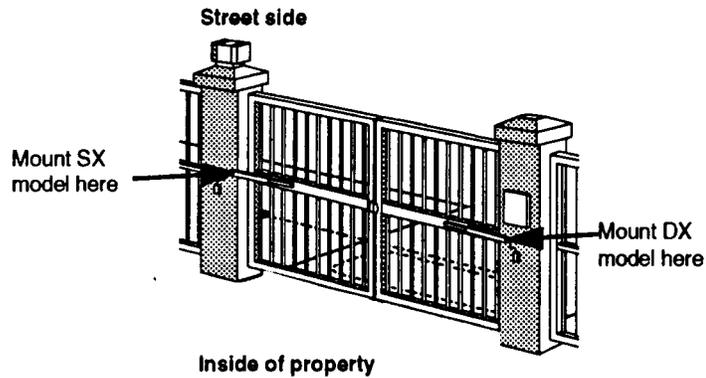

Figure 2. Mount the proper model (SX or DX) on the gate leaf whether the gate swings inward or outward.
- 2- 412 Operator units. One is marked SX and one is marked DX. Be sure to install each on the proper gate leaf (see Figure 2).
For gates with two leaves, two operators are installed. Each of them is designed for either the right or left gate leaf: If the hinge is on the left as you face the gate on the side where the operator will be installed, you want a left or SX version; if the hinge is on the right when you face the gate on the side where the operator will be installed, you want a right or DX version. A kit has one right and one left version (see Figure 2).